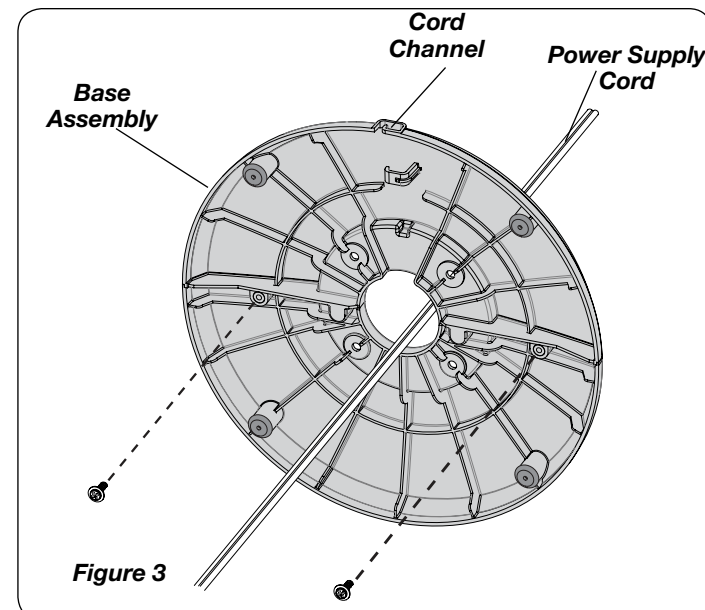

Figure 3
- Secure the Base halves with (2) M4 X 13mm Screws. Thread the **Power Supply Cord** through the large hole in the **Base Assembly**. NOTE: The **Cord Channel** on the bottom of the Base should be towards the back of the Heater. (Figure 3)